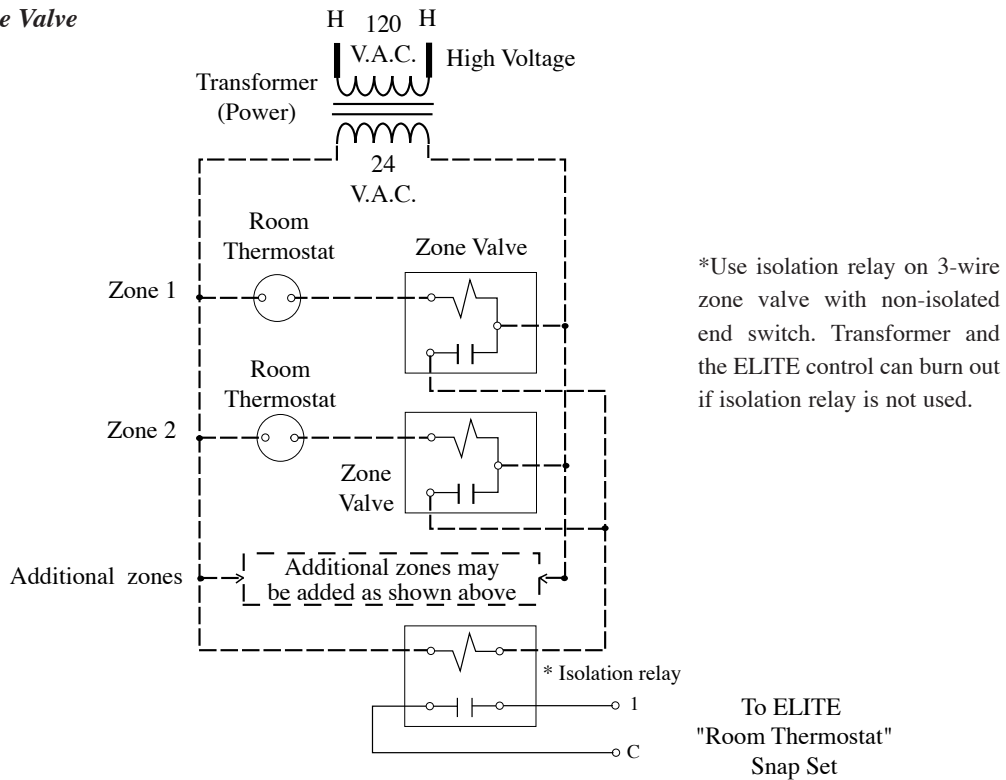

**Fig. 17: Room Thermostat Snap-set Wiring**
2. Remove the snap-set cover and connect the thermostat wiring to terminals C and 1 per Fig. 17.